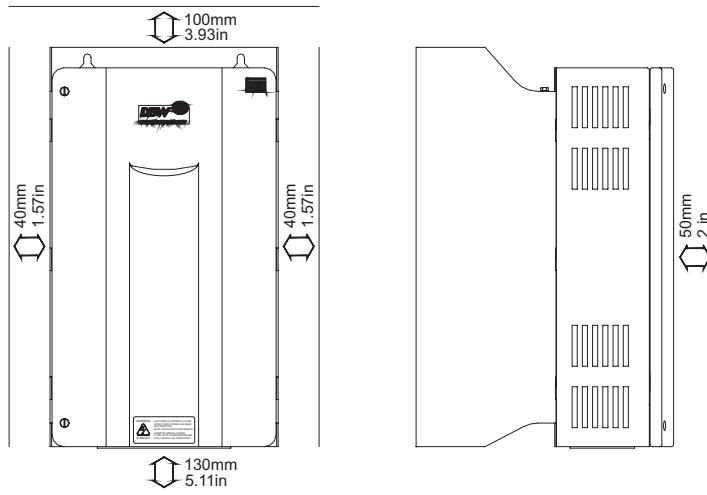

Figure 1: Free Spaces for Cooling
- Step 2** Install the braking module on the vertical position and leave free space around it, as indicated in figure 1;